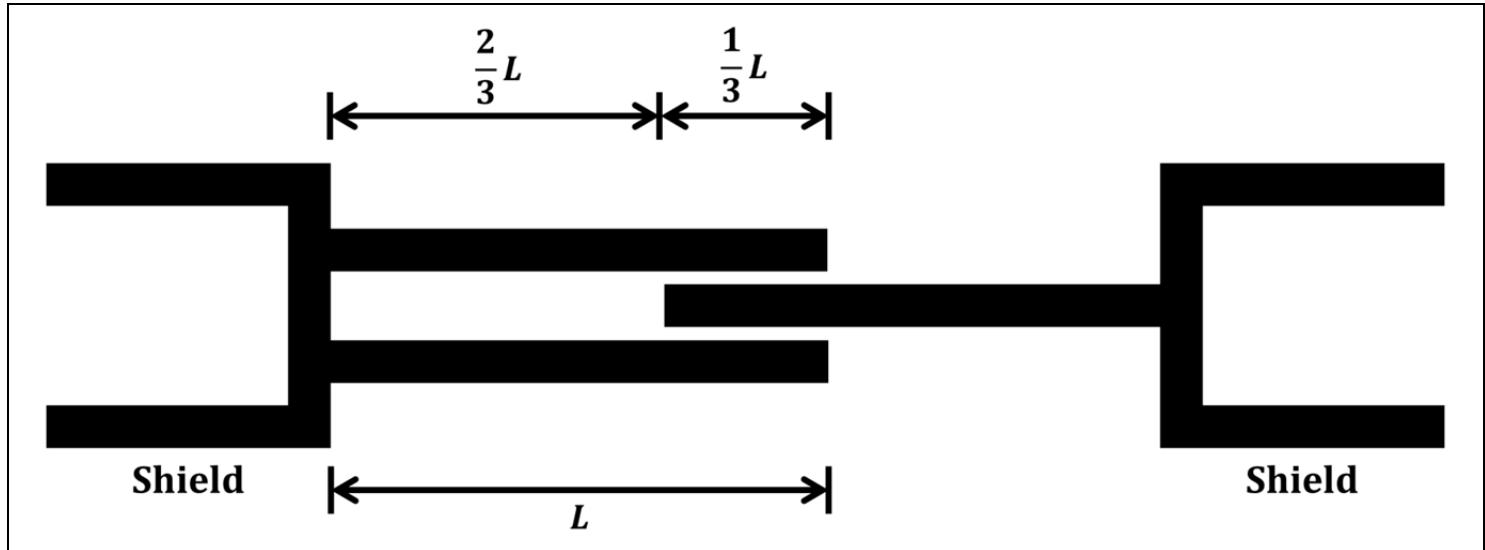

Figure 5. Minimum Profile Tube Overlap
3. When operating the driveline, it is important to pay attention to the overlapping length of the two profile tubes. The recommended length is two-thirds of the entire tube. The minimum length allowable for safe operation is one-third of the entire tube. For further clarification, please refer to *Figure 4* and *Figure 5*, below.